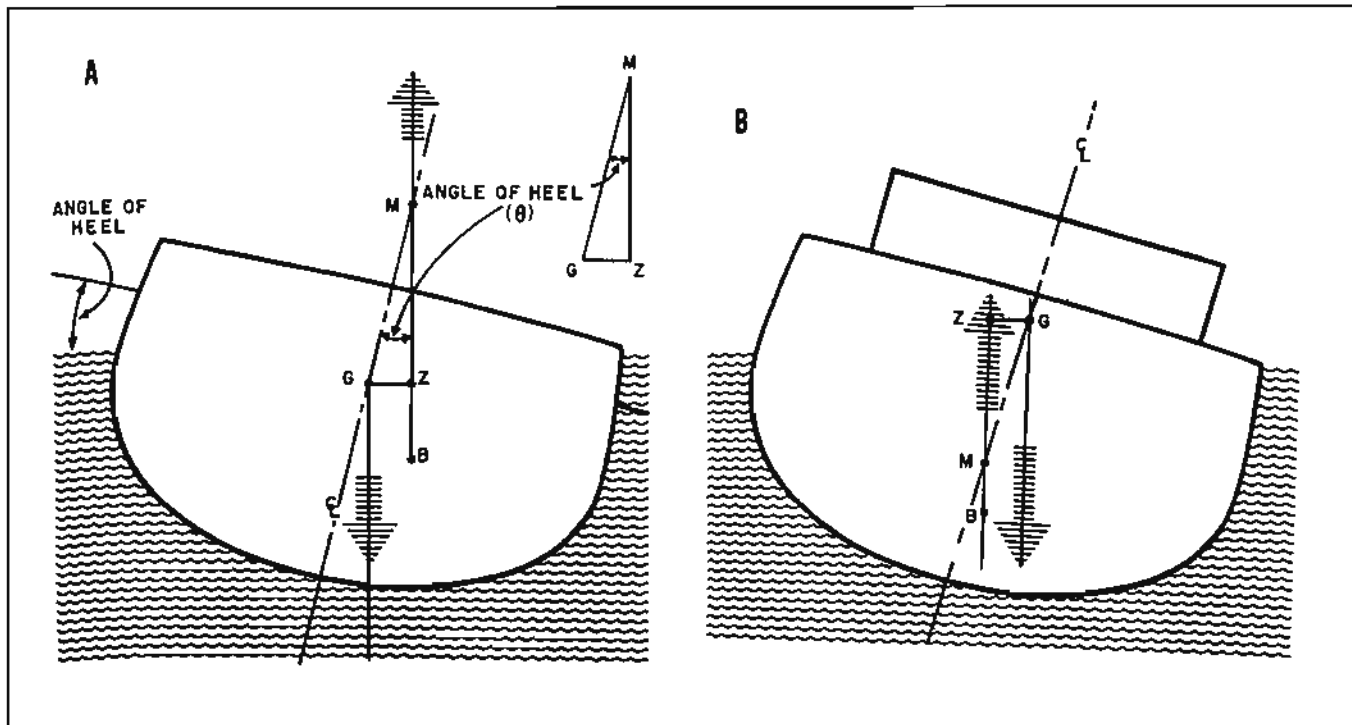

Figure 11-11. (A) Stable condition, G is below M ; (B) Unstable condition, G is above M .
11.2.6 Metacentric Height (GM)
The distance from the center of gravity (G) to the metacenter is known as the fishing vessel's metacentric height (GM). Figure 11-11 shows a vessel heeled through a small angle (the angle is exaggerated in the drawing), establishing a metacenter at M. The fishing vessel's righting arm GZ is one side of the triangle GZM. In this triangle GZM, the angle of heel is at M. The side GM is perpendicular to the waterline when the vessel is inclined.
sel is inclined are righting moments, and the vessel is stable (part A of Figure 11-11). But if M is below G , the metacentric height is negative, the moments which develop are upsetting moments, and the vessel is unstable (part B of Figure 11-11).